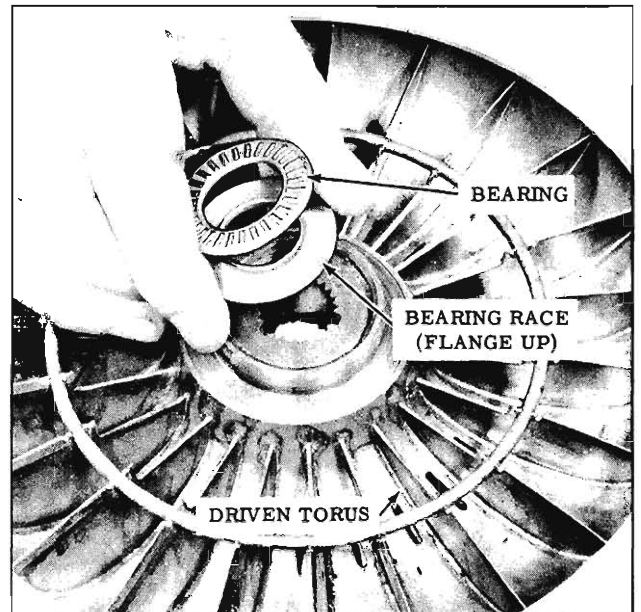

Fig. 6-111 Installing Race and Bearing
6. Install flanged race into driven torus (flange side up). (Fig. 6-111)